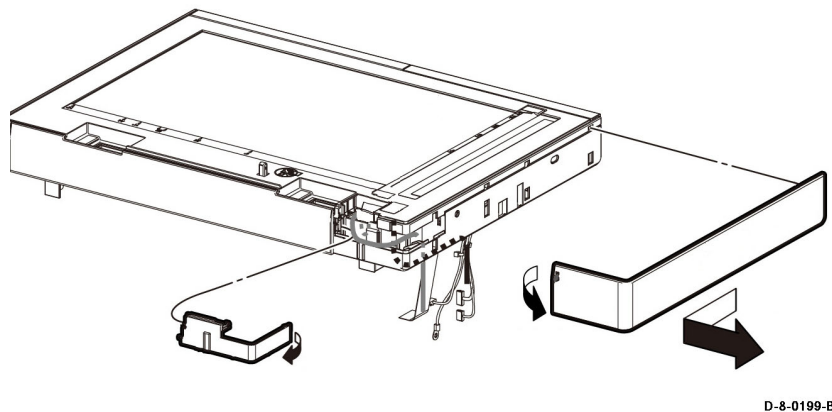

Figure 1 Left IIT cap removal
2. refer to Figure 1, release the hook on the right of the left IIT cap and remove the left IIT cap.